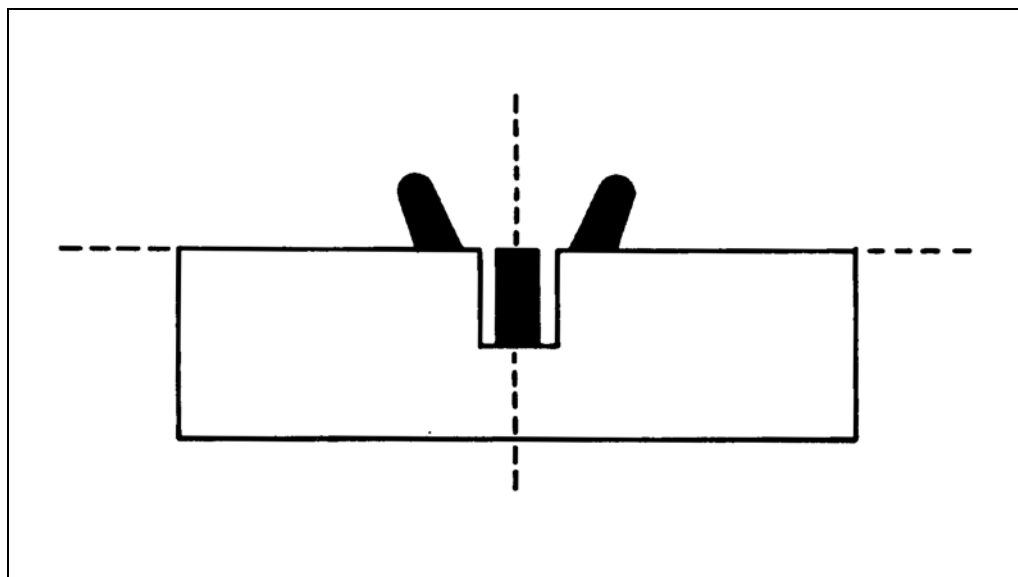

Figure A-19. Correct sight alignment.
a. **Sight Alignment, Sight Picture, and Sight Manipulation.** Sight alignment is the relationship between the front sight blade and the rear sight notch. Figure A-19 shows the correct sight alignment. If you drew an imaginary horizontal line across the top of the